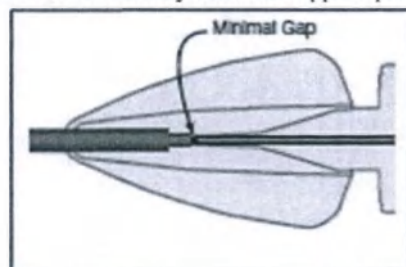

Figure 3: Aligning the Introducer Tip
2. Gently insert the introducer tip into the RHV until it can go no further and is in close alignment with the hub of the infusion microcatheter. (There may be a small space, as shown in Figure 3, between the tip and hub depending on the type of microcatheter used.) Gently tighten the RHV main valve around the introducer sheath to prevent back-flow of blood. Visually inspect the alignment of the introducer tip and the microcatheter hub to ensure they have not slipped apart.
3. Grasp the distal end of the re-sheathing tool between your left thumb and forefinger. Grasp the clear tab near the proximal end of the introducer sheath body with the thumb and forefinger of your other hand. (See Figure 3). Gently pull the clear tab of the introducer sheath out and away from the re-sheathing tool at a 45-degree angle to unlock the microcoil. Continue to pull the tab until an additional 0.5 to 1.0 in (1.3 to 2.5 cm) of the translucent material is exposed.